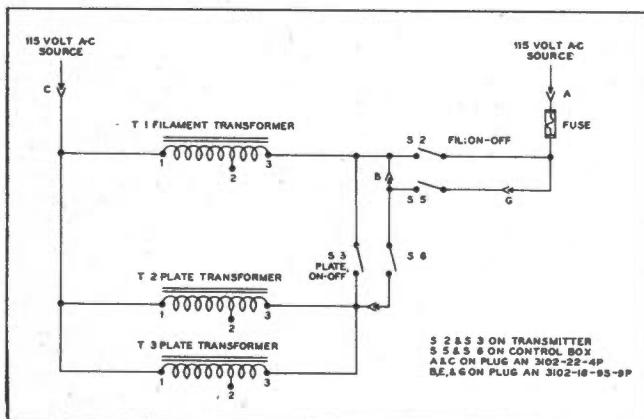

Figure 4-8. Power Switch Control
c. A voltage divider circuit consisting of resistors R1 to R10 inclusive (see fig. 4-8) divides the 750-volt supply and applies the correct voltage to each dynode.
d. The d-c voltage is obtained through a filter network consisting of coils L10, L11, L16, L17, and capacitors C1, C2, C3, C4, and C6. (See fig. 4-8.) This network blocks any feedback from higher power circuits which might cause unwanted oscillations.
e. The output is developed across a slug-tuned coil L1 (see fig. 4-8) and is coupled to the grid of the first amplifier through capacitor C5. Coil L1 constitutes a tuned circuit because of distributed capacitance.
(6) Note that the operating voltage for the multiplier phototube V1 is derived partly from this circuit and partly from the circuit fed from transformer T2. The plate of the tube is 600 volts positive with respect to ground; the cathode is 150 volts negative with respect to ground; thus the plate is 750 volts positive with respect to the cathode of the tube.
f. The arrangement of power switches for controlling filament and plate transformers from both transmitter panel and remote control unit is illustrated in figure 4-8. This arrangement is used so that the plate transformer cannot be energized before the filament transformer.